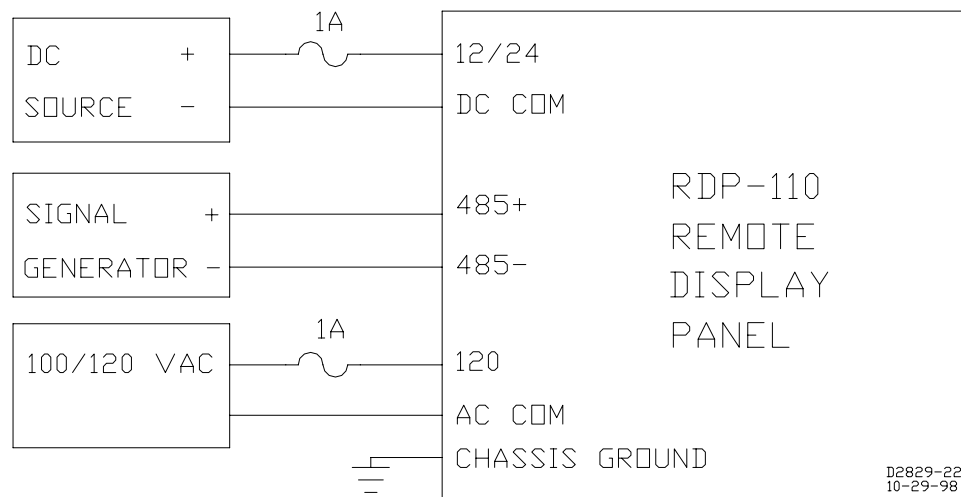

Figure 5-1. Test Set Diagram
Step 1. Connect the test setup as shown in Figure 5-1.